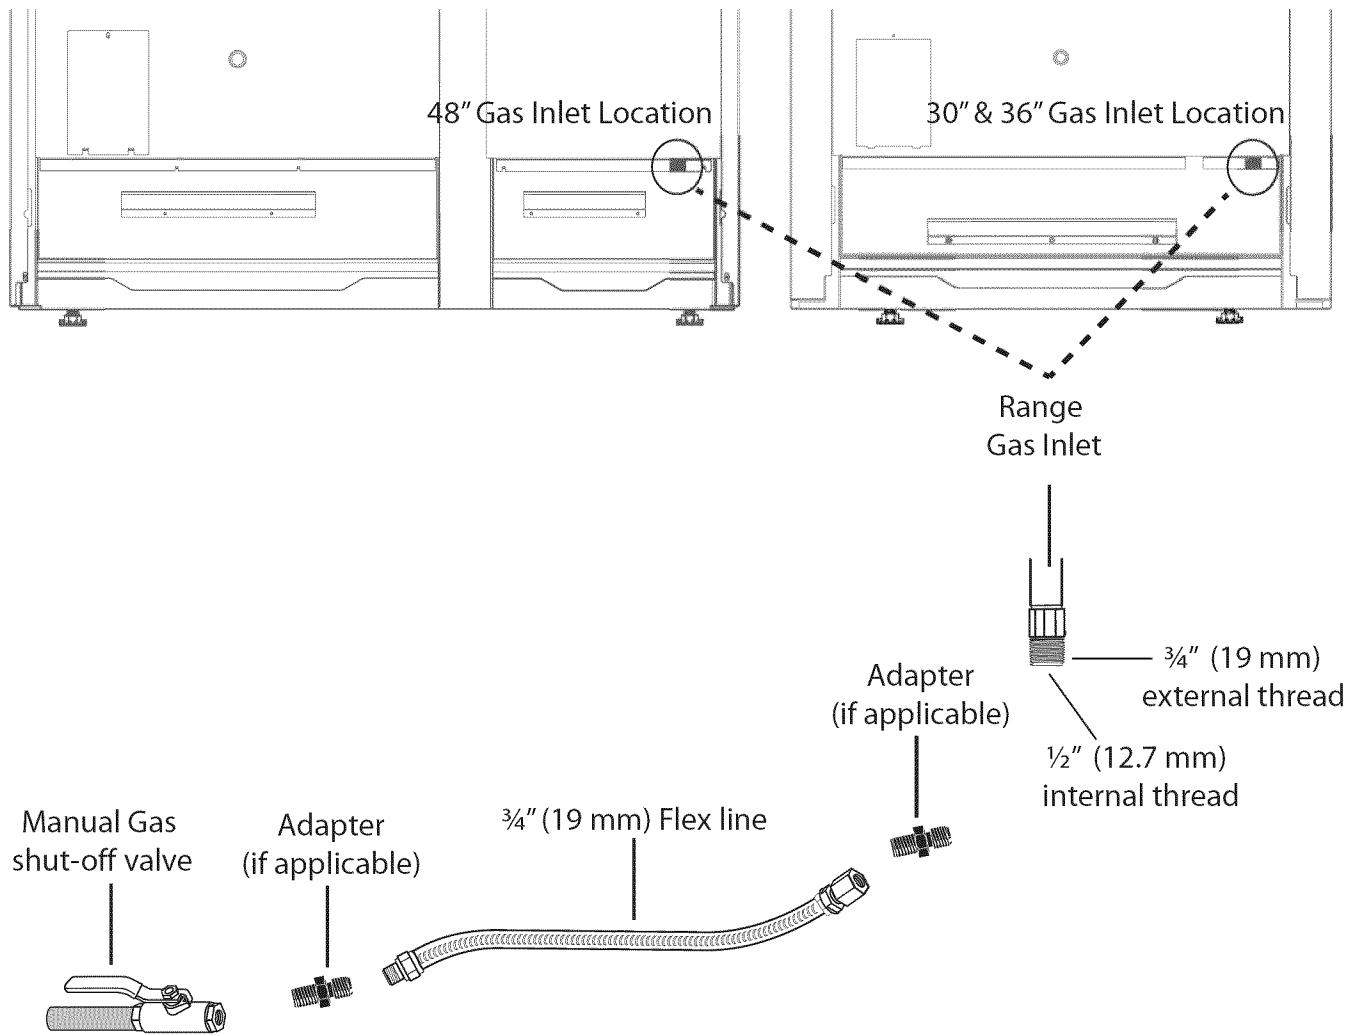

Figure 10: Gas Supply Connection
2. Use a 3/4" (19 mm) flex line to connect between the gas supply and the appliance gas inlet. The gas supply line connection is located at the lower right portion of all range models (see *Figure 10*). The appliance gas inlet connection is 1/2" (12.7 mm) NPT.